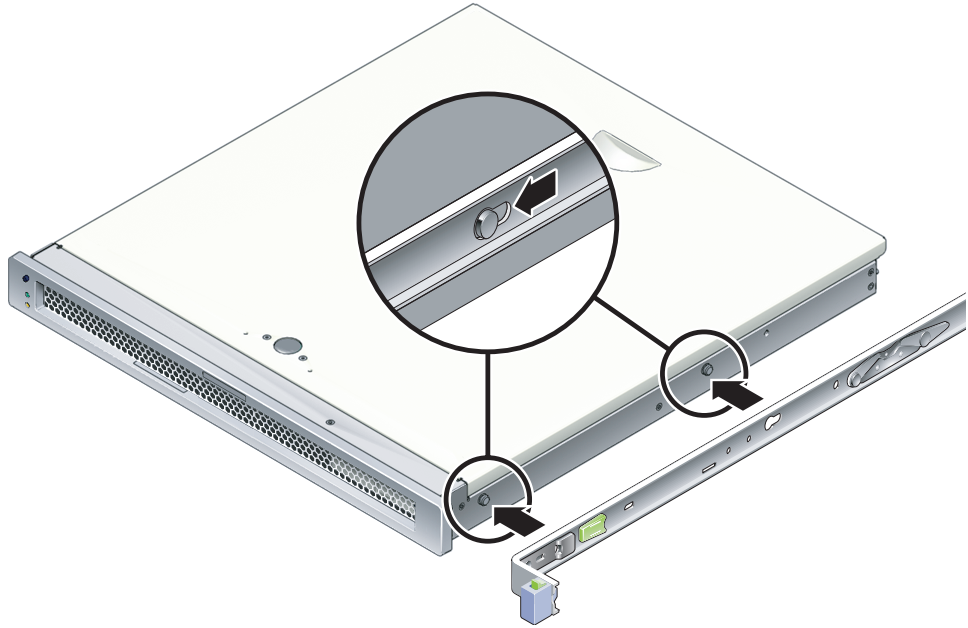

FIGURE 2-3 Attaching a Mounting Bracket to the Chassis
- a. Position the mounting bracket against the server chassis (FIGURE 2-3) so that the slide rail lock is at the front and the two keyed openings on the mounting bracket are aligned with the two locating pins on the side of the chassis.
- c. Verify that both locating pins are trapped in the keyed openings and that the front locating pin has engaged the mounting bracket lock (FIGURE 2-3).